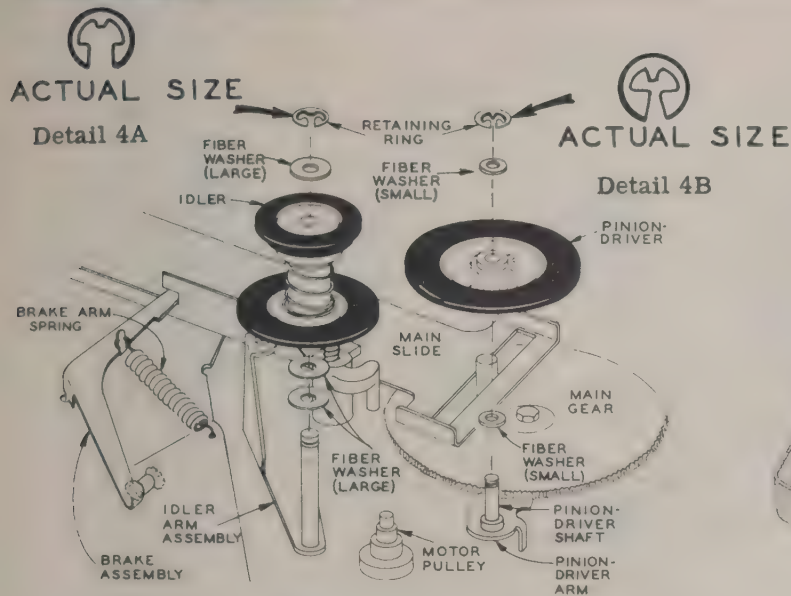

Figure 4
- () Place two fiber washers from bag "EE" on the shaft on the outer end of the idler arm assembly. See Figure 4.
- () Secure the idler in place, using a fiber washer and retaining ring from bag "EE". See Figure 4 and Detail 4A.
- () With the changer positioned as shown in Figure 4, select the brake from bag "F" and install it as illustrated.
- () Place one of the smallest fiber washers (bag "EE") on the pinion-driver shaft located next to the large gear which drives the main slide. See Figure 4.
- () Install the pinion-driver (bag "D") on the shaft next to the main gear which drives the main slide. Place one small fiber washer on top of the pinion-driver. Refer to Figure 4.